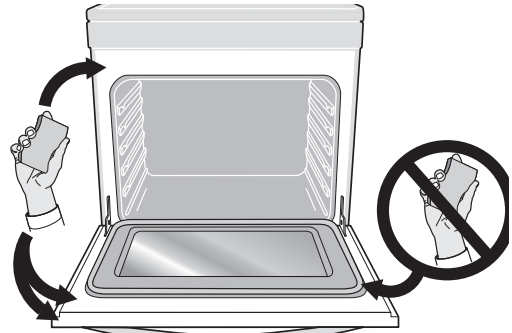

Figure 31: Clean around the oven door gasket
9. Wipe oven cavity and bottom. Do not clean oven door gasket (Figure 31). Avoid leaning or resting on the oven door glass while cleaning cavity.